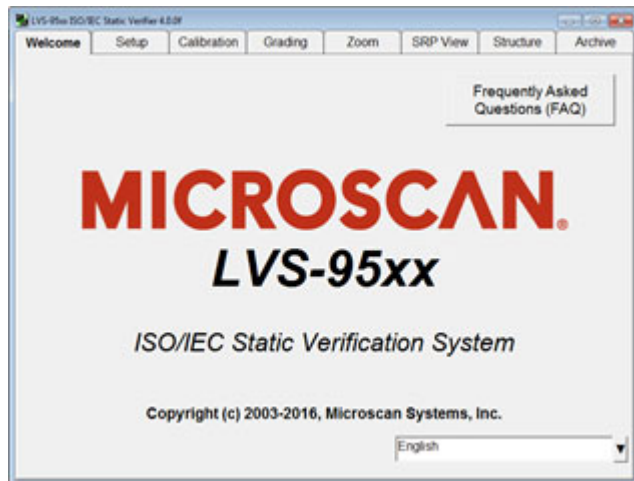

Figure 30: Double-click on “Version”
5. Double-click the term “Version” (Figure 30).